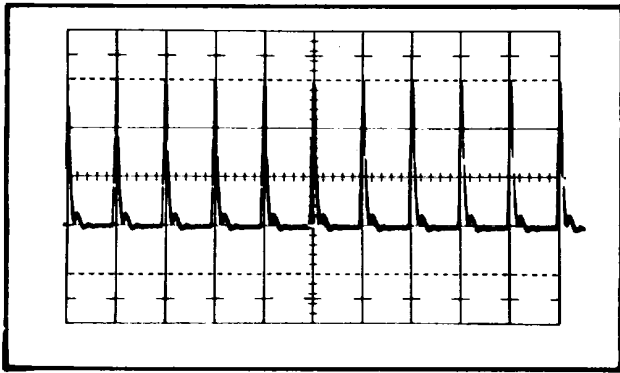

Fig. 6-16. Typical TRIGGER OUTPUT display. Volts/cm
- d. Check the amplitude of trigger signals. Fig. 6-16.